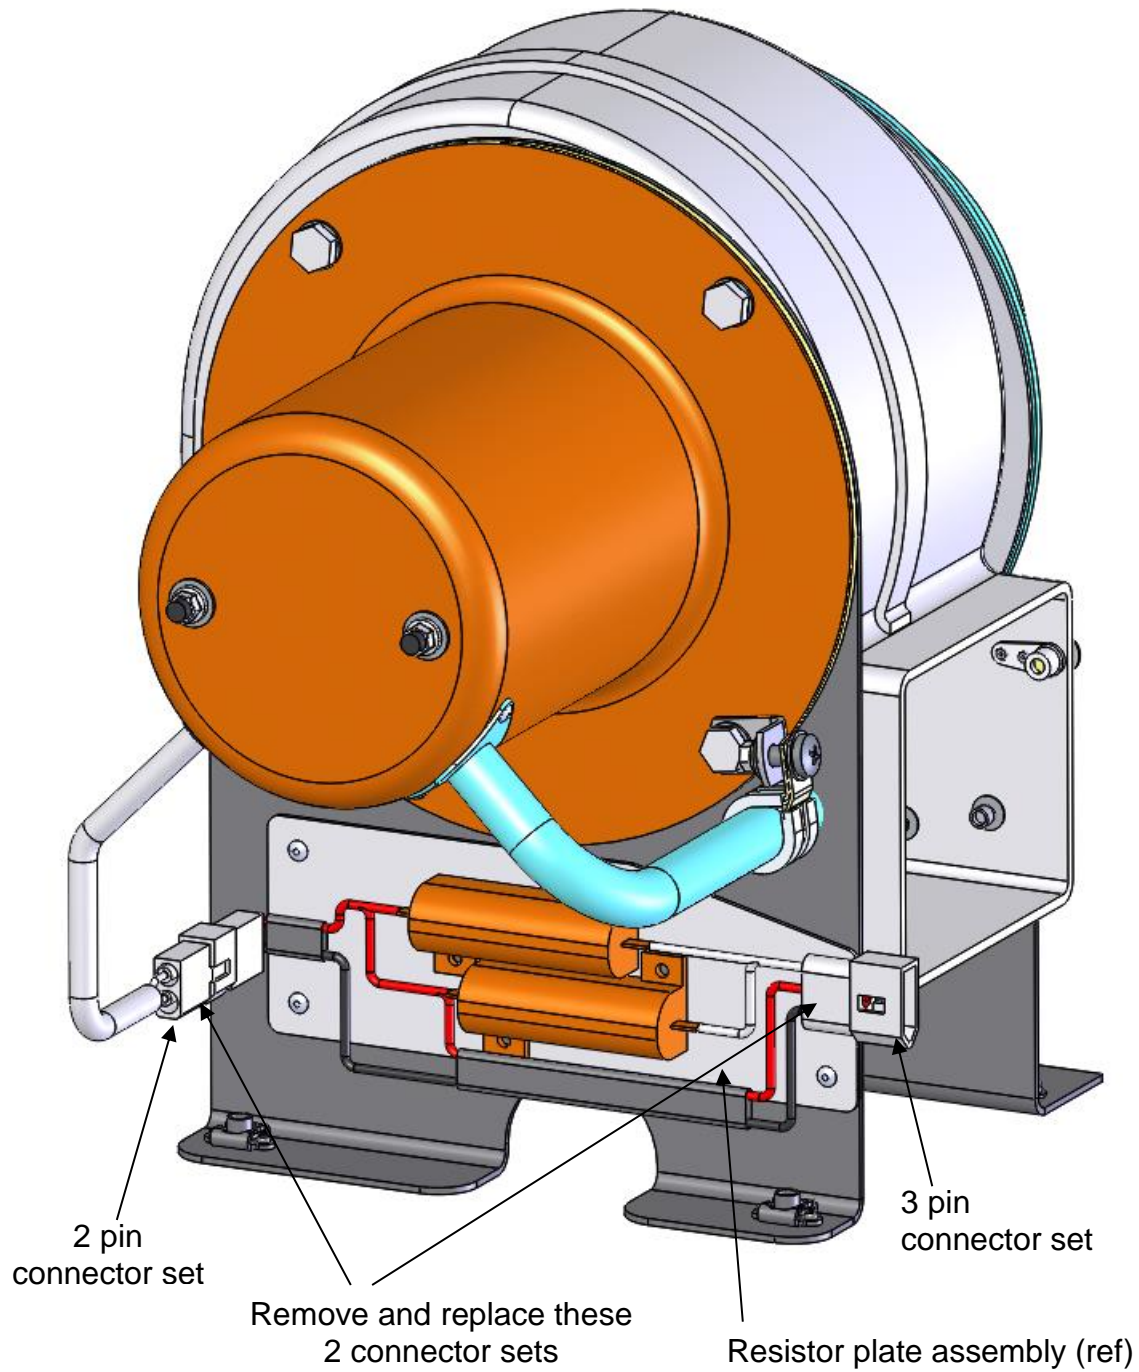

Figure 1 Blower Assembly S-6102EC-4 used in the 407EC-202-1,-2,-3 and 407EC-203-2 AC kits
2. Locate the 3 pin connector near the resistors on the evaporator (see Figure 1) and mark the white wires "Red" and "Black" as appropriate per figure 2. It may be necessary to remove a portion of the heat shrink covering on the harness.
3. For the 407EC-202 and 407EC-203 kits (with the blower shown in figure 1) cut the wires on the back side of the 4 connectors (2 connector sets) shown in Figure 1. Remove minimal wire length. Remove and discard the connectors w/pins & sockets. For the 407EC-620-2 kits (with the high output blower shown in Figures 3 & 4) remove and discard the 3 pin connector set.